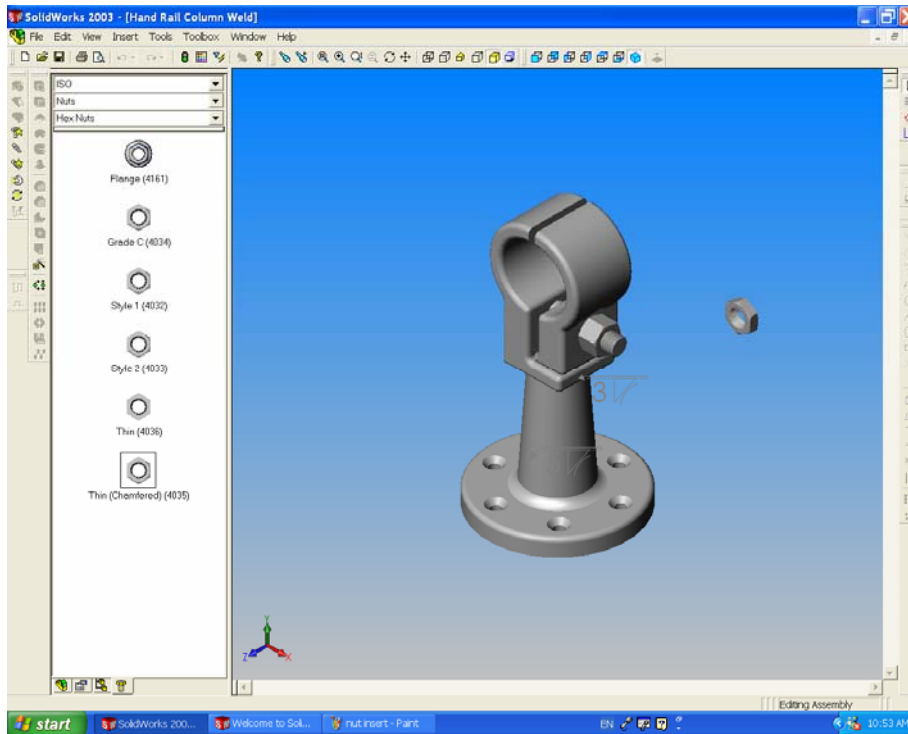

Figure 8
11. Drag a 'Thin (Chamfered) (4035)' Nut and drop in the graphics area of the screen. Once more enter the nut parameters to match the standard nut. Click OK to place the nut near to the assembly. See Figure 8.